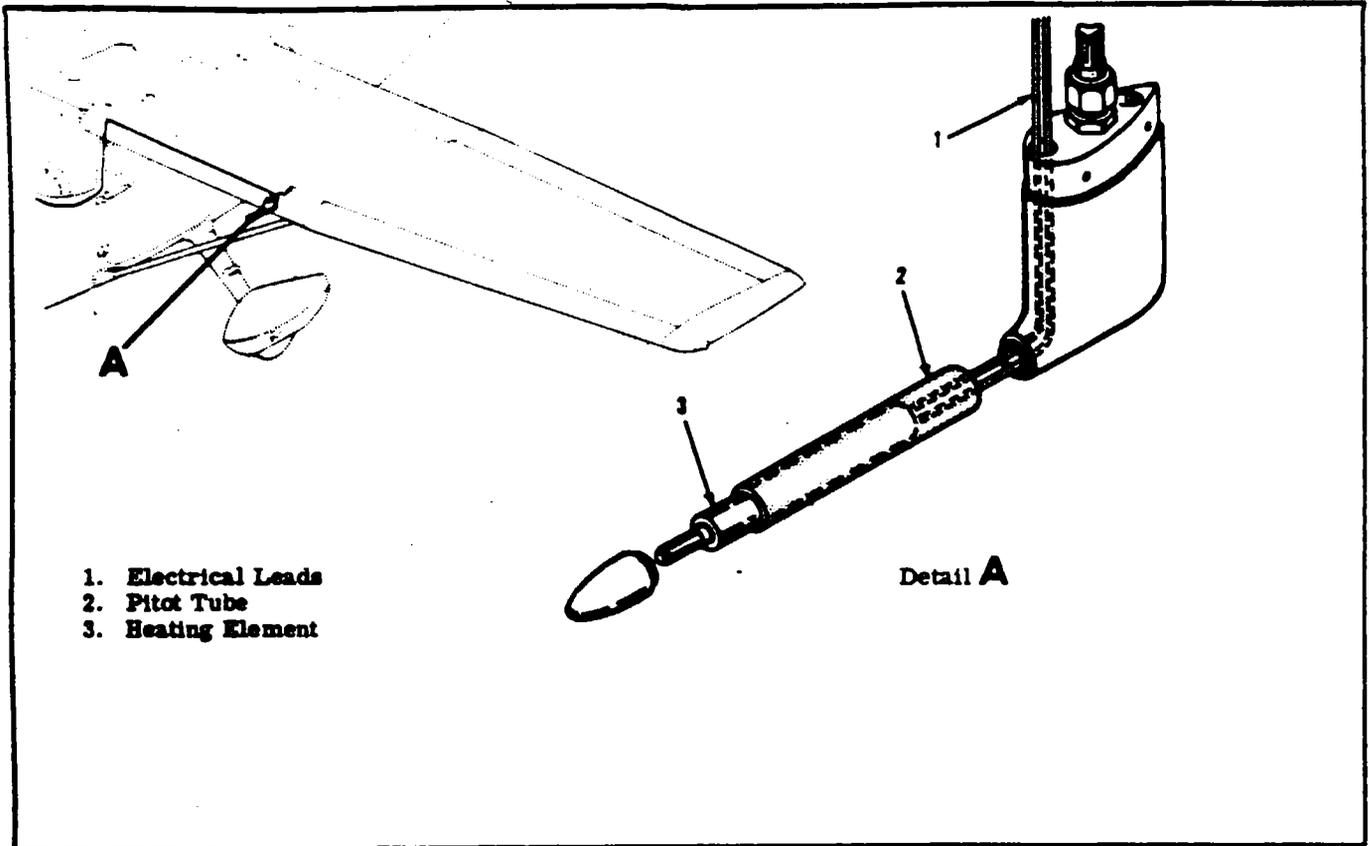

Figure 16-13. Heated Pitot Installation
- To remove rheostat remove screws securing bracket (10).
- Disconnect electrical leads from rheostat (8).
- 16-85. **DESCRIPTION.** An electrical heater unit is installed in some pitot tubes. The heater offsets the possibility of ice formations on the pitot tube. The heater is integrally mounted in the pitot tube and is operated by a switch on the instrument panel. (See figure 16-13.)
16-89. DESCRIPTION. The ELT is a self-contained, solid state unit, having its own power supply, with an externally mounted antenna. The C589511-0209 transmitter is designed to transmit simultaneously on dual emergency frequencies of 121.5 and 243.0 Megahertz. The C589510-0211 transmitter thru 17265192 and the C589510-0212 beginning with 17265193 used for Canadian registry, operates on 121.5 only. The unit is mounted in the tailcon, aft of the baggage curtain on the right hand side. The transmitters are designed to provide a broadcast tone that is audio modulated in a swept manner over the range of 1800 to 300 Hz in a distinct, easily recognizable distress signal for reception by search and rescue personnel and others monitoring the emergency frequencies. Power is supplied to the transmitter by a battery-pack which has the service life of the batteries placarded on the batteries and also on the outside end of the transmitter. ELTs are equipped with a battery-pack containing alkline "D" size batteries (See figure 16-13). The ELT exhibits line of sight transmission characteristics which correspond approximately to 100 miles at a search altitude of 10,000 feet. When battery inspection and replacement schedules are adhered to, the transmitter will broadcast an emergency signal at rated power (75 MW-minimum), for a continuous period of time as listed in the following table.